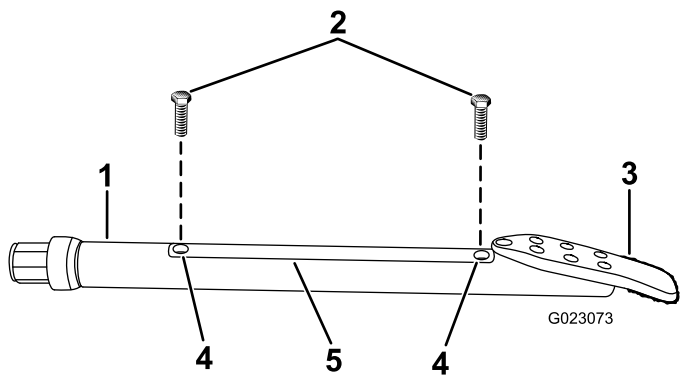

Figure 21
2. Loosen the screws securing the housing cover to the housing and remove the cover (Figure 21).
4. Install the housing cover and secure it with the screws (Figure 21).